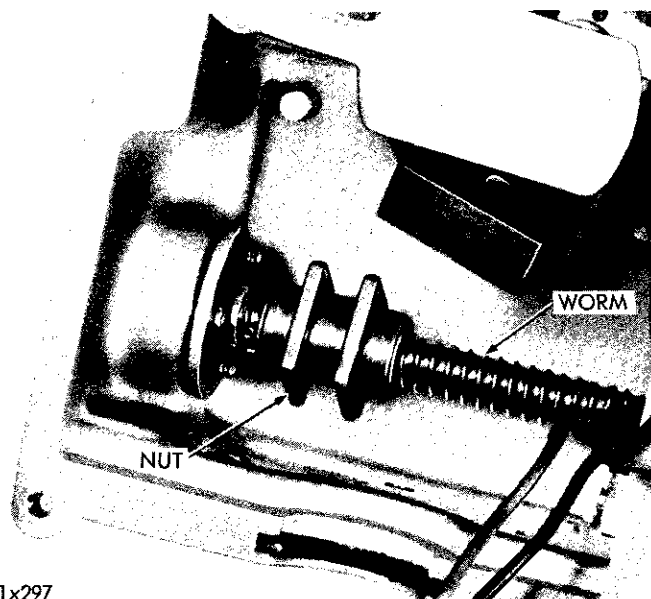

Fig. 26—Assembling the Drive Worm and Nut Assembly in the Housing
(2) Lubricate the drive worm and nut assembly with MoPar Lubriplate and install the assembly in the motor end of the housing (Fig. 26). Install the serial number plate. Attach the plate and drive screw